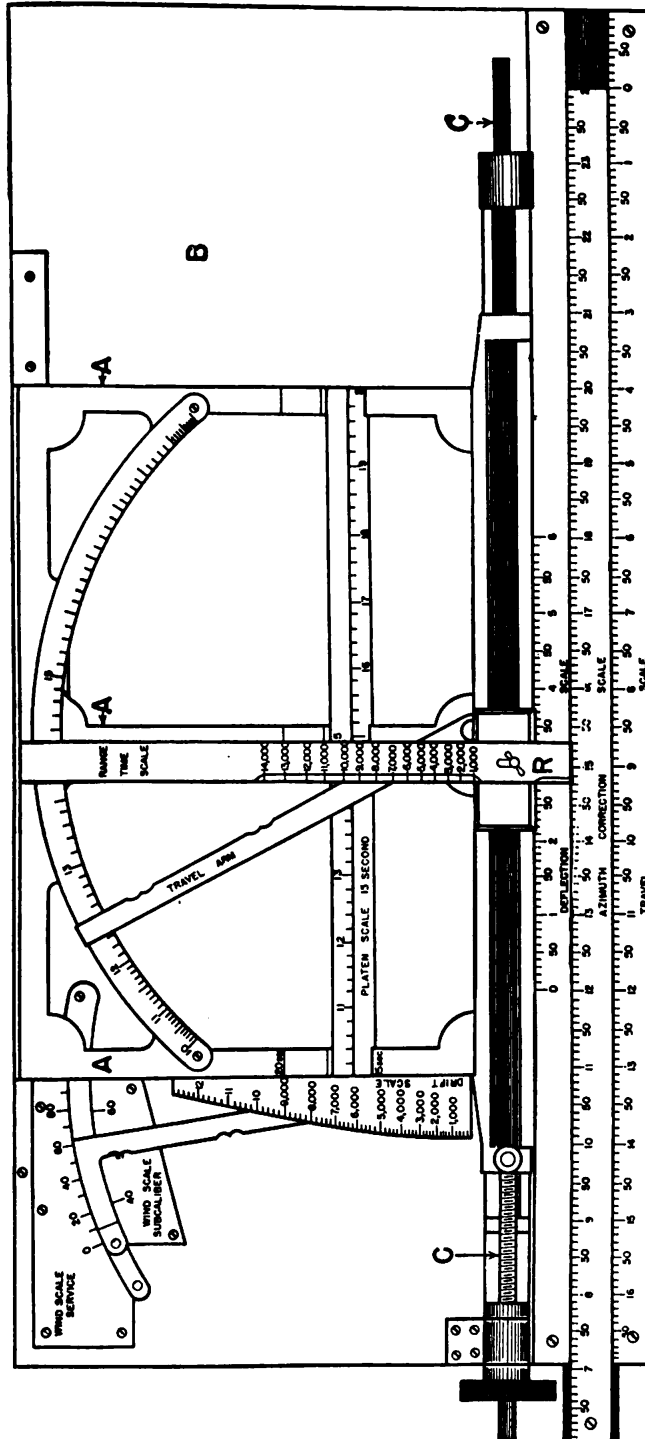

FIGURE 52.—Deflection board M1905 (for guns).
A. See figure 52.
(1) Select and put in place the proper drift scale and range-time scale for the gun and ammunition being used.
(2) Select the proper side of the platen scale and put it in its proper place on the platen, according to the length of the observing interval being used.